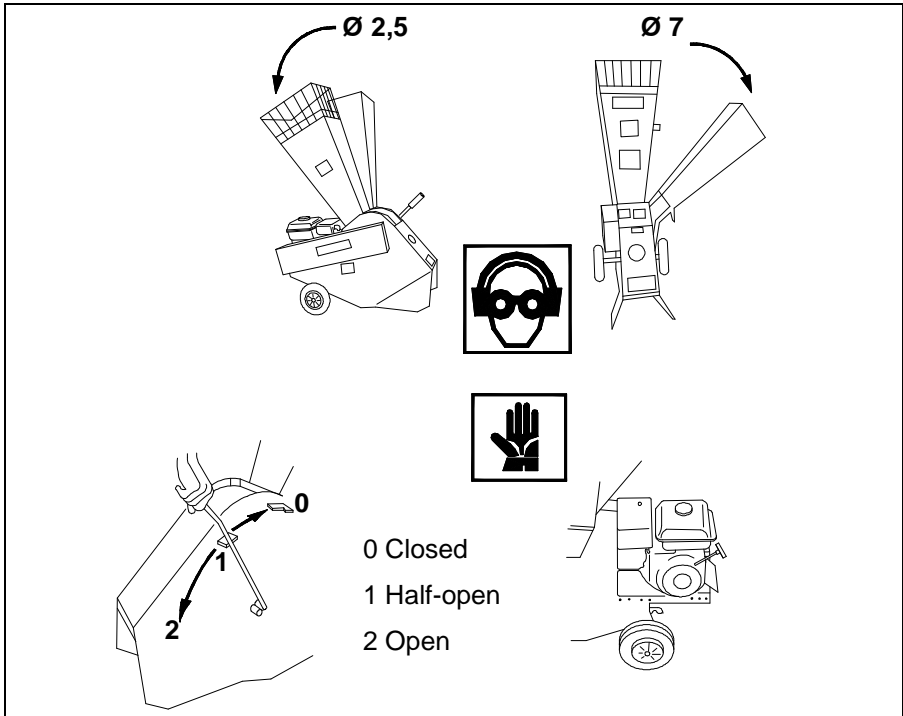

Fig. 11
Load trimming and foliage into the upper loading hopper, taking account of available power in function of the model you possess (fig. 11).
- The lever can be used partially opened out for shredding green or wet material (Fig. 11).